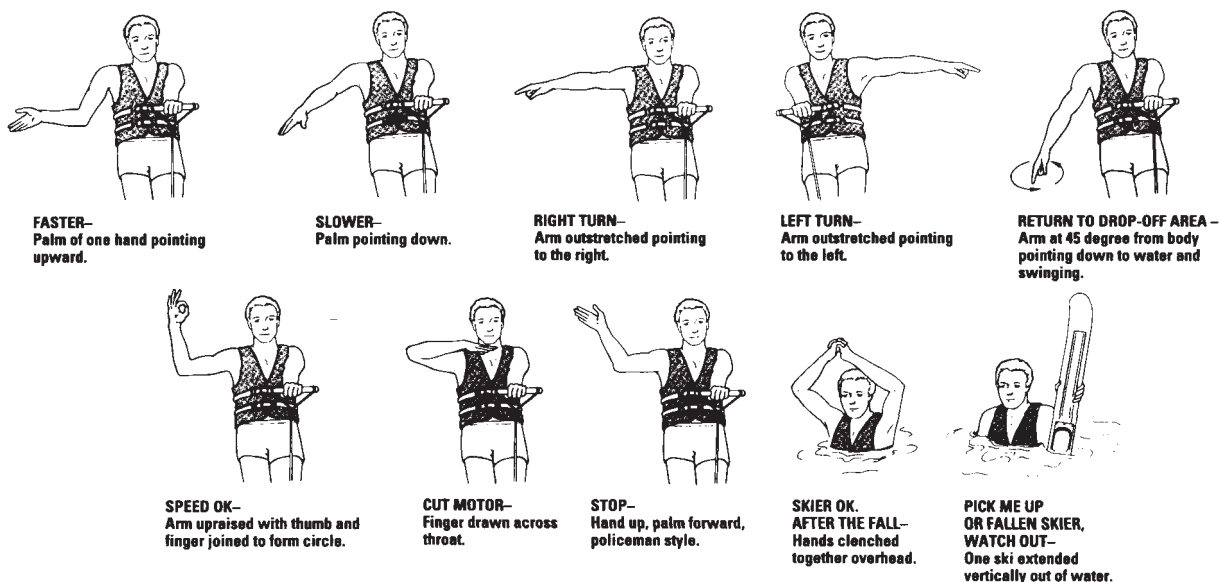

Figure B19: Skier's Hand Signals
3. Have a second person aboard to observe the skier and inform the driver about the skier's hand signals (Figure B19). The driver must give full attention to operating the boat and the waters ahead.